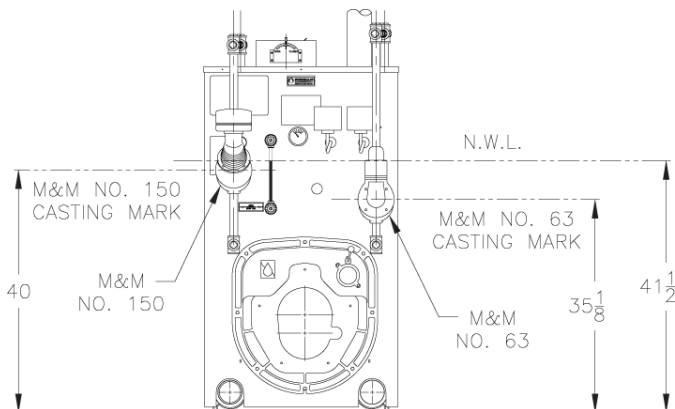

Figure 31: Mounting Elevations of M&M 150 and 63 Float Low Water Cut-Offs
NOTE: PLEASE REFER TO MINIMUM PIPING, FIG. 31, FOR PROPER QUANTITY OF SUPPLY AND RETURN CONNECTIONS USED FOR SPECIFIC BOILER MODEL.
1. PLEASE REFER TO MINIMUM PIPING, FIG. 31 FOR PROPER QUANTITY OF SUPPLY AND RETURN CONNECTIONS USED FOR SPECIFIC BOILER MODEL.